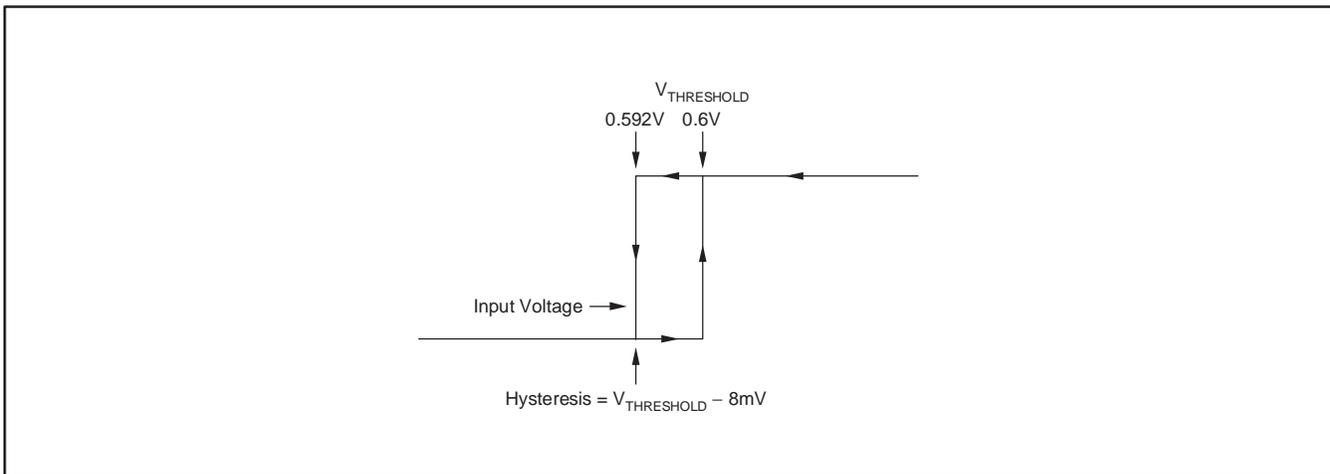

Figure 1. Typical Comparator Hysteresis
- (1) Hysteresis refers to the threshold (the threshold specification applies to a rising edge of a noninverting input) of a falling edge on the noninverting input of the comparator; refer to Figure 1.
- (2) Specified by design.
- (3) V_{ID} refers to the differential voltage at the comparator inputs.
- (4) Open-drain output can be pulled to the range of +2.7V to +18V, regardless of V_S .
- (5) The comparator response time specified is the interval between the input step function and the instant when the output crosses 1.4V.
- (6) The RESET input has an internal 2M Ω (typical) pull-down. Leaving RESET open results in a LOW state, with transparent comparator operation.